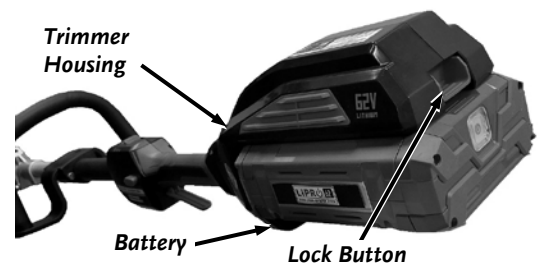

Figure 12
1. Slide the Battery Pack into the Battery Cradle on the Trimmer Housing, aligning the ribs in the cradle with the slots in the Battery until it is latched into place (**Figure 12**).